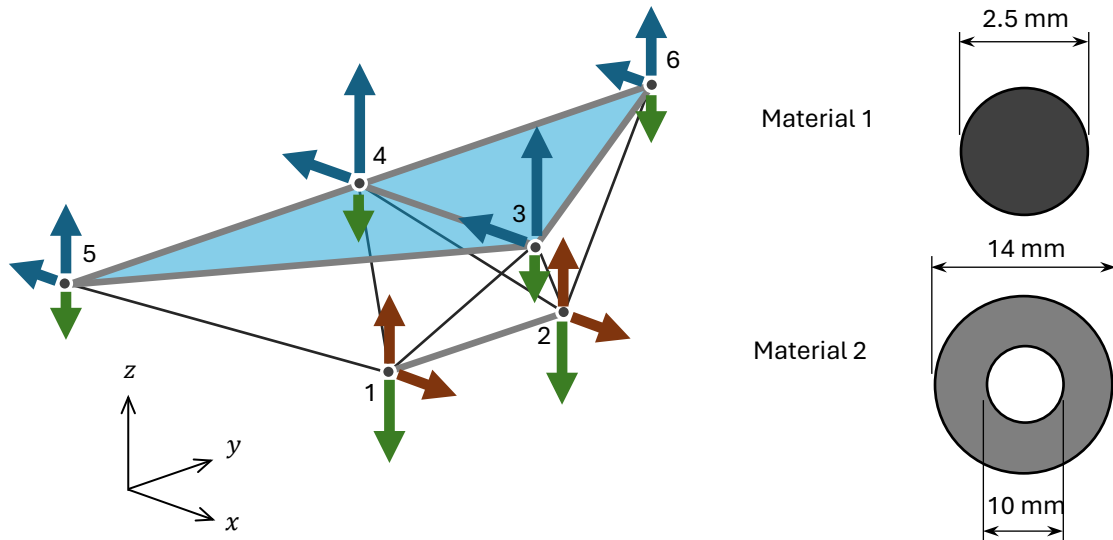

Figure 1. Sketch of the glider structure, including the loads distribution and detail of the cables (material 1) and bars (material 2) cross sections.
Consider the hang glider depicted in Figure 1. Its structure is composed of bars of two different materials, with their properties given in Table 1. The equations of motion of the glider as a rigid body are:
Hint: The script file "input_data" contains the nodal coordinates matrix "x" (in meters), the nodal connectivities matrix "Tn" and the material connectivities matrix "Tm". The nodal and material indexing is as depicted in Figure 1. For postprocessing the results, use the provided "plot3Dbars" function. It takes as inputs (in this order): (1) the nodal coordinates matrix "x", (2) the nodal connectivities matrix "Tn" (both as provided in "input_data"), (3) a scale factor (to visualize the deformed structure), (4) the time vector (length N_t , it contains the time of each iteration step). (5) the global displacements matrix (size $n_{\text{dof}} \times N_t$, each column contains the displacements vector at each iteration step), and (6) the stress vector matrix (size $n_{\text{el}} \times N_t$, each column contains the element stresses vector at each iteration step). To just plot the results for a given time instant provide input (4) as a scalar value and inputs (5) and (6) as column vectors with the results corresponding at the time instant. You can optionally add an input (7) indicating the units in which you provided the stress.